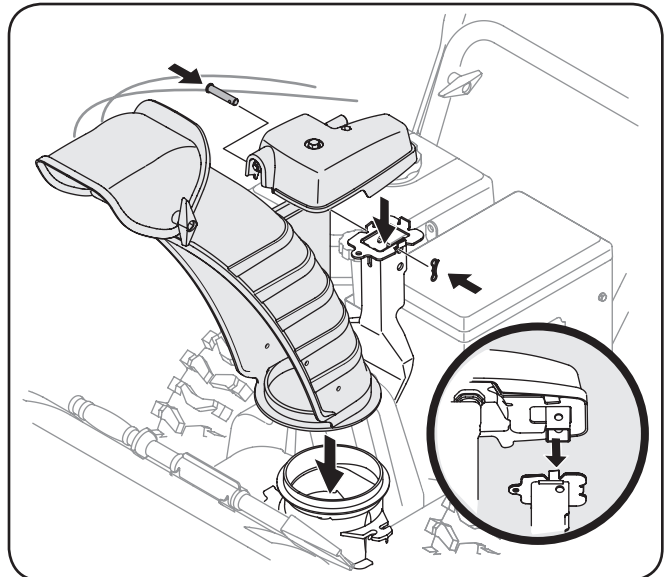

Figure 3-15
2. Place chute assembly onto chute base and secure chute control assembly to chute support bracket with clevis pin and cotter pin removed earlier. See Figure 3-15.